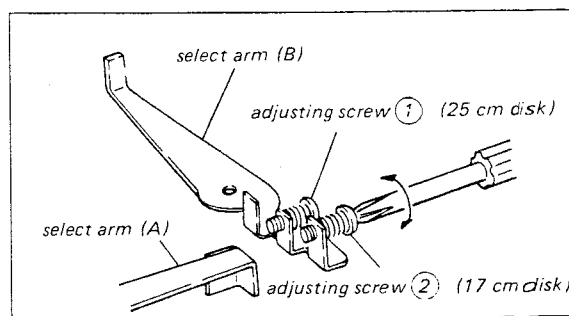

Fig. 3-3
4. The adjusting screws ①, ② as shown in Fig. 3-3 are the screws to adjust the position of AUTO-IN to the disk sizes of 17 cm, 25 cm individually. Take for instance, in case if the position of AUTO-IN at the time of 17 cm is deviated, even if it is all right in case of AUTO-IN at 30 cm, turn the adjustment screw ② in Fig. 3-3 and adjust it. When the timing of AUTO-IN is sooner, turn it counterclockwise. To the contrary, if it is later, turn it clockwise and adjust it in such a way that it will touch the central position of the lead-in groove.
When it comes to this position, the select arm (B) (See Fig. 3-3) will serve as stopper and the START/RETURN plate which pushes PU plate so far will be turned over and it does not push the PU plate anymore.